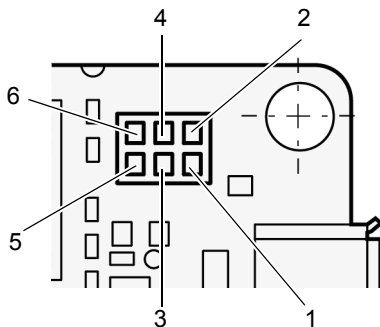

Fig. 14: Pinout for the I/O Connector
The I/O connector on the camera is a 6-pin socket connector with a 1.27-mm pitch dual-row receptacle. It is used to access the physical input and output lines on the camera. The pinout for the I/O connector is as shown in Figure 14.
The camera has two direct-coupled GPIO lines that are accessed via contact 3 and 4 of the I/O connector on the back of the board (see Figure 14).
- are designated as Line 1 and Line 2 (see Figure 14).